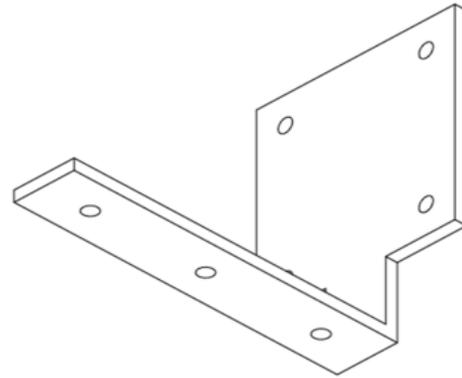

Figure 6: C-clip twist clip
3. Preload F-clip to bottom of SP-002 at end of opening (see fig. 6).